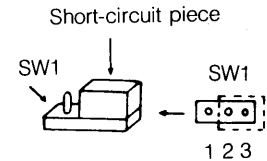

**Fig. 5-3-6 Position of switch SW1 and SW2**
For the input voltage polarity of each of Frequency setter connecting terminal (12) and Voltage input auxiliary terminal (V1), both (+) and (−) are applicable. When a frequency setter is used, the polarity can be switched by means of switch SW1 on the printed board (See Fig. 5-3-6 for the installed location).